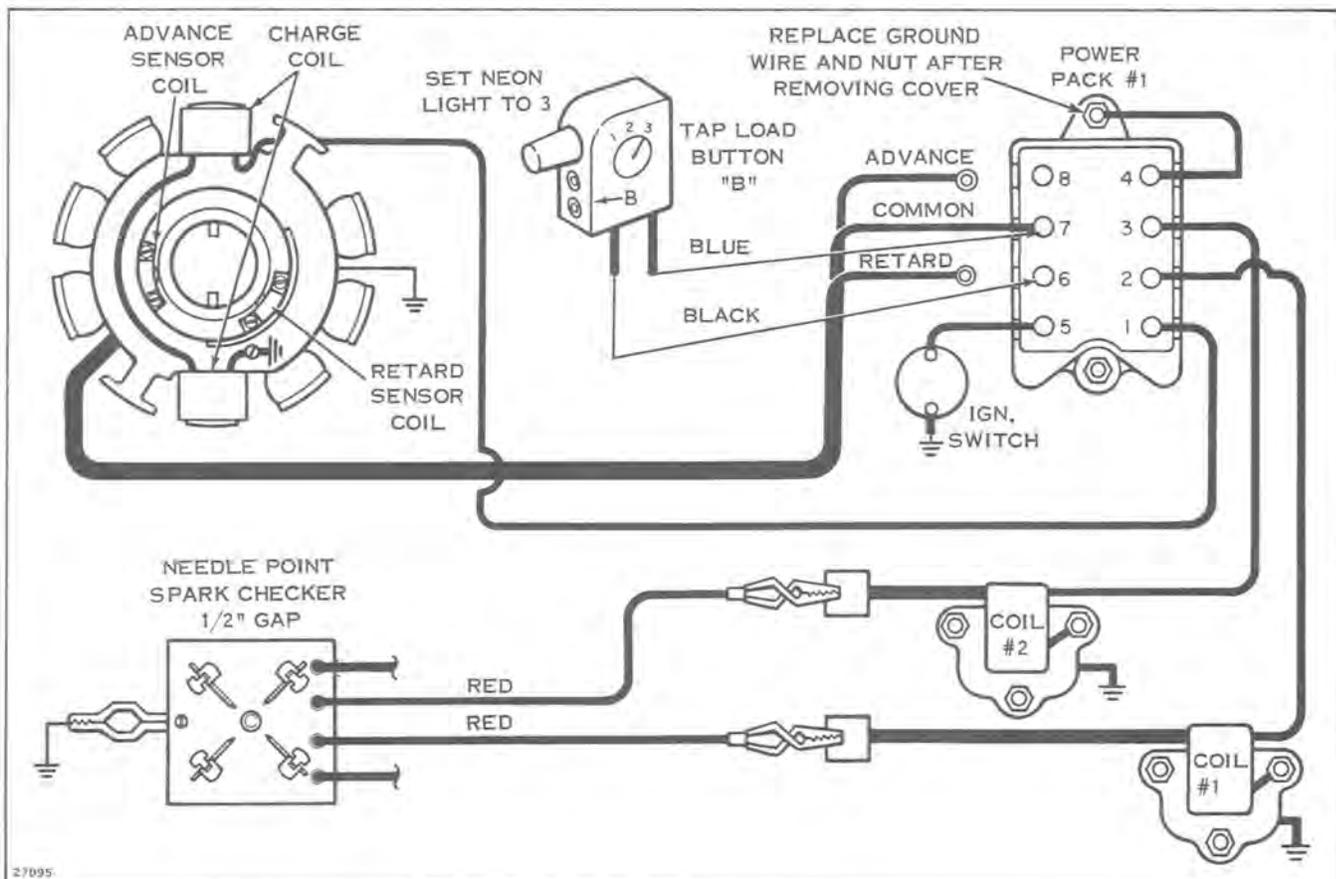

Figure 7-16
- A. Connect needle point spark checker as illustrated. See Figure 7-16.
- B. Remove retard sensor white/green stripe lead and advance sensor lead white/black stripe from Power Pack terminals #6 and #8. (Do not allow leads to touch ground.) See Figure 7-16.
- C. Connect neon tester S80 or M80 black lead to Power Pack terminal #6 and blue lead to sensor common (terminal #7). Set rotary switch to position #3. See Figure 7-16.
- C. Depress load button "A" and crank engine with electric starter or manual starter (with ignition switch in "RUN" position) and observe light. See Figure 7-16.